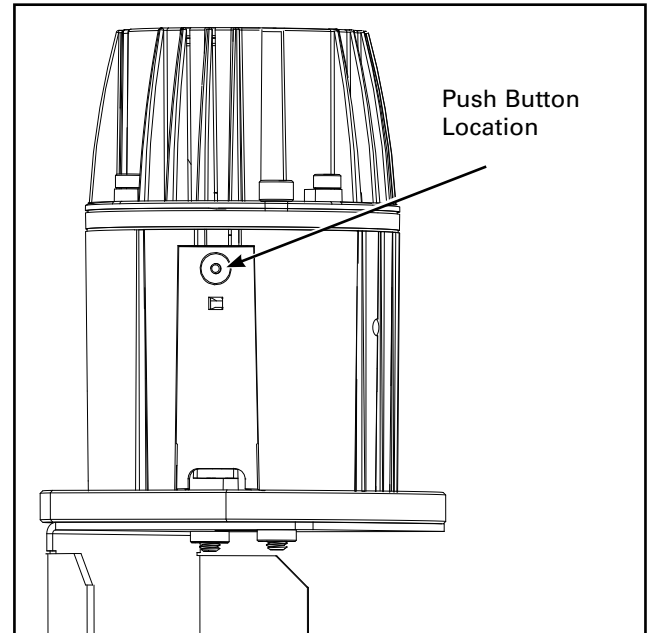

Figure 9.
6. Cat. 1900-OA (LED): See LED Module Section (Figure 9).